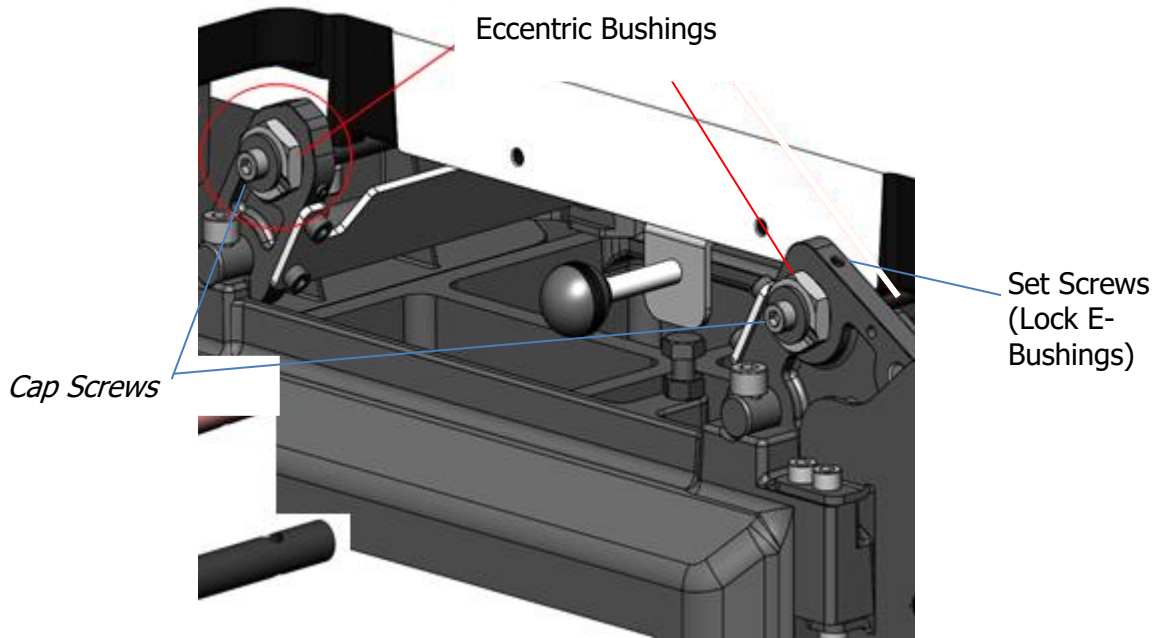
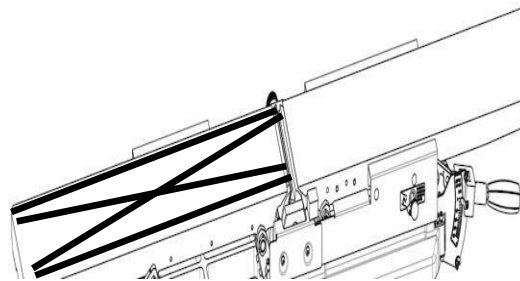

Fig 31: Eccentric Bushings, Cap Screws & Set Screws
Figure 32: Checking table
STEP 3: Loosen set screws as shown in FIG. 31.
STEP 4: Place straight edge to all the positions shown in **FIG. 32** and loosen set screw(s) adjust the eccentric bushings, as in **FIG. 31**, until straight edge slightly touches the cutterhead insert knife (at top-dead-center) at each position.
STEP 5: After verifying the parallelism on the outfeed table, make sure the eccentric collars are seated snugly, into its bracket, and tighten cap screws with washers and then tighten set screws into eccentric bushings (Fig. 31).